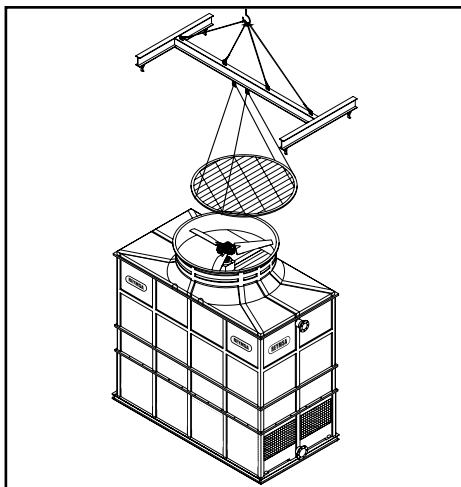

Figure A-91: Fan guard installation of the fan deck in an RTGM and RTGMTC Tower model.
- U.** Before lifting up the fan deck, remove the fan guard. See Figure A-91 (only for RTGM-8 and RTGMTC-8 wide models).
- Y. Place the fan guard back over the duct section (see Figure A-91) and bolt it down (only for RTGM-8 and RTGMTC-8 wide models).